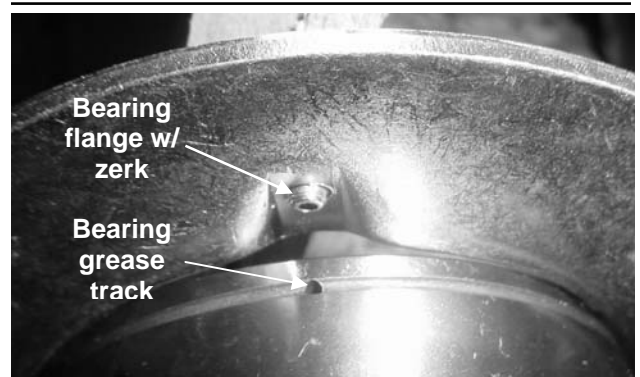

Figure 12-28
- Align the grease hole of the bearing flange with zerk and the grease track on the bearing as shown in figure 12-28.